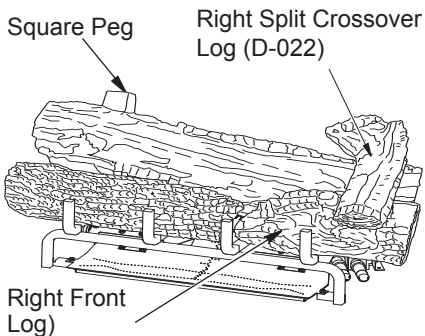

Figure 29 - Installing Right Split Crossover Log
- Find the right split crossover log (D-022). The bottom of the log has a rectangular shape that fits in the rectangular slots on the right side of the front right log and the middle split log. Place this log as shown in Figure 29.